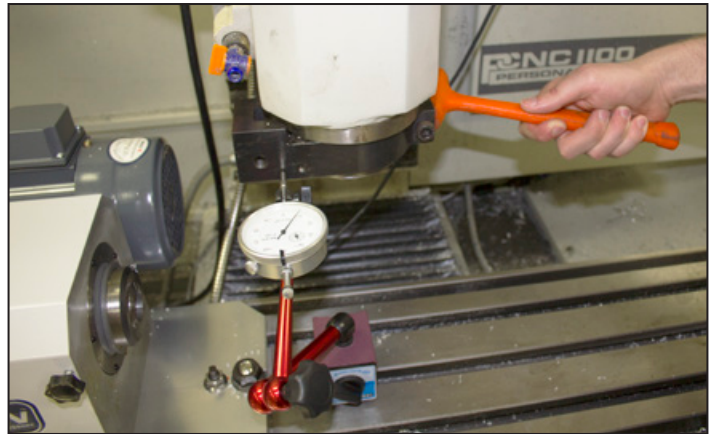

Figure 2.20
6. If necessary, use a dead-blow hammer to tap Universal Spindle Arm into alignment (see **Figure 2.20**). Repeat steps 5-6 until reading on dial indicator does not move.